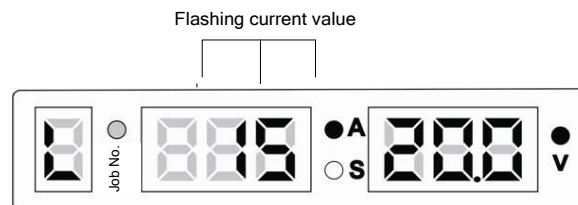

Figure 3-36 UI for locking the current adjustment range
4. On the UI for locking the current adjustment range, the middle screen flashes. See Figure 3-36. Use the knob on the control panel of the welder to set the current adjustment range and press the **LOAD**  button. The UI for locking the voltage adjustment range is displayed. The default range is ± 15 A.